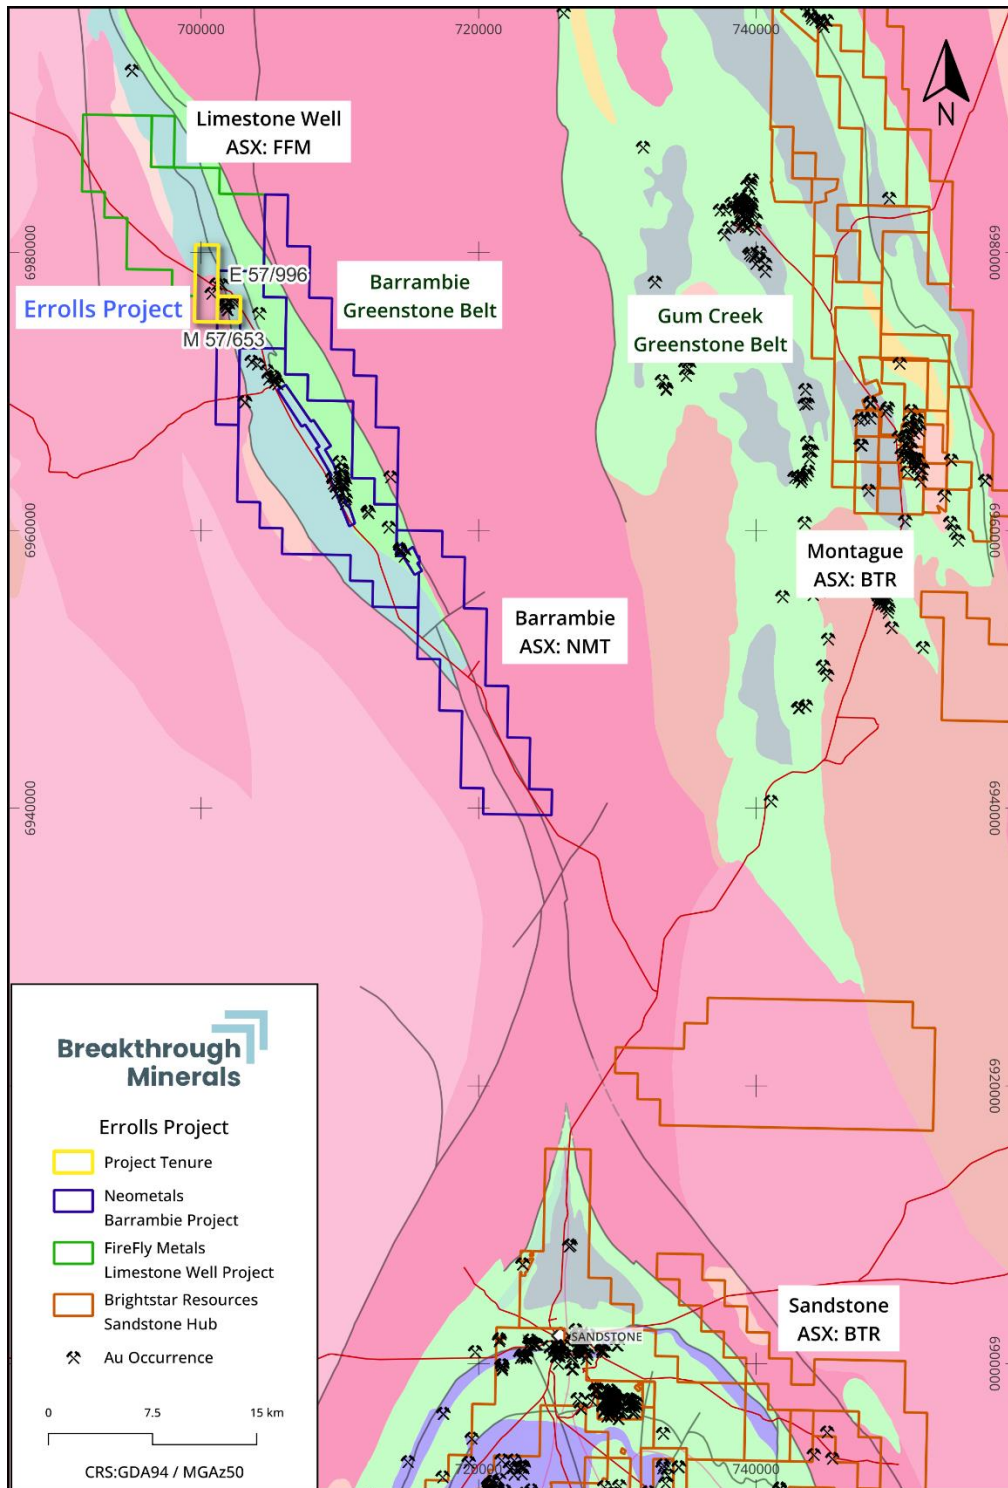

Figure 1 - Barrambie Greenstone Belt showing Errolls with Sandstone to the south over GSWA 1:500k geology
Breakthrough Minerals (ASX: BTM “Breakthrough” or “the Company”) is excited to announce outstanding results from metallurgical testwork on samples collected from the Errolls Legacy Prospect which is part of the Company’s recently announced proposed gold acquisition. The Company has reviewed the original data and reporting on gold extraction testwork conducted on a bulk composite RC drill sample collected from five Reverse Circulation (RC) holes drilled at the Errolls Legacy Prospect (Figure 1). The testwork was carried out in 1987 with sample details listed in Table 1 and results provide encouragement that any addition to the gold found as part of the Errolls gold mineralised system may be straightforward to process.